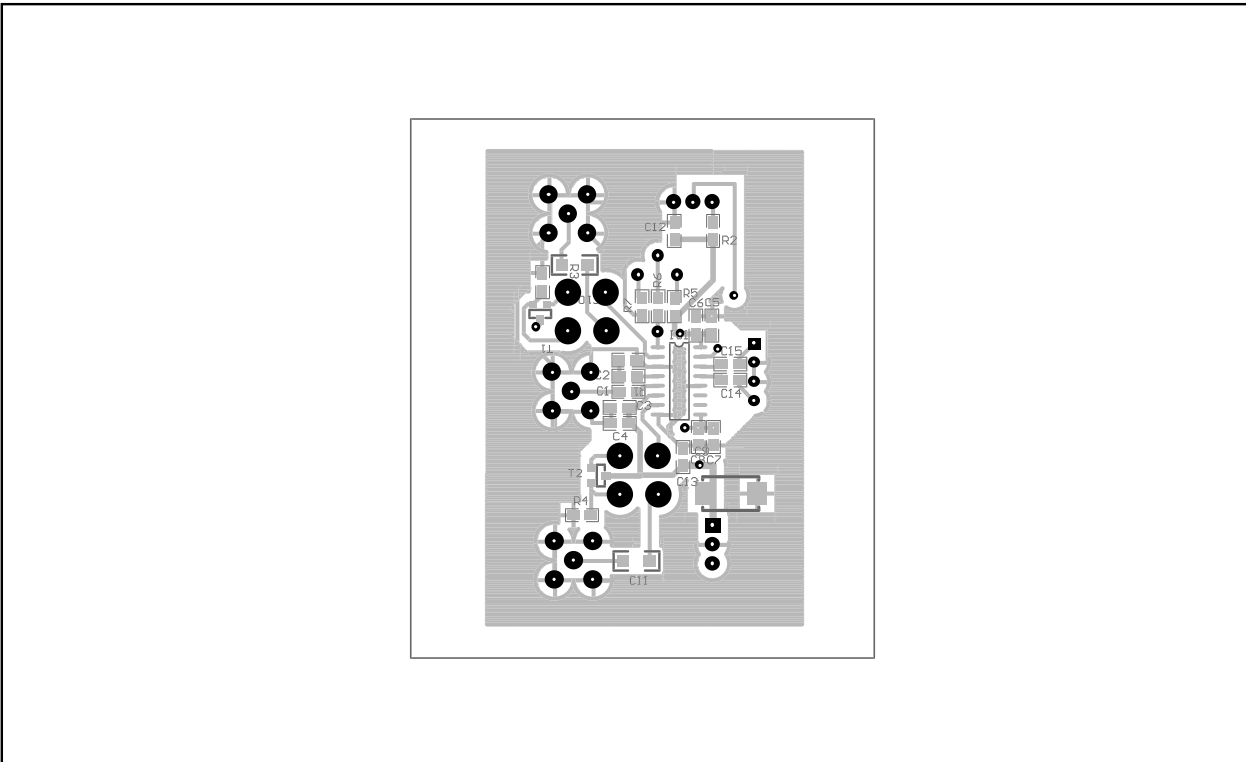

Fig. 12
These application notes should be read in conjunction with circuit diagrams contained in Fig. 7 and 10, and a recommended front end tuner solution contained in Fig. 12. These boards have been designed to demonstrate performance and to allow for initial evaluation of the SL1714.
**Note:** All ICs shown in Fig. 12 are available from Mitel Semiconductor.